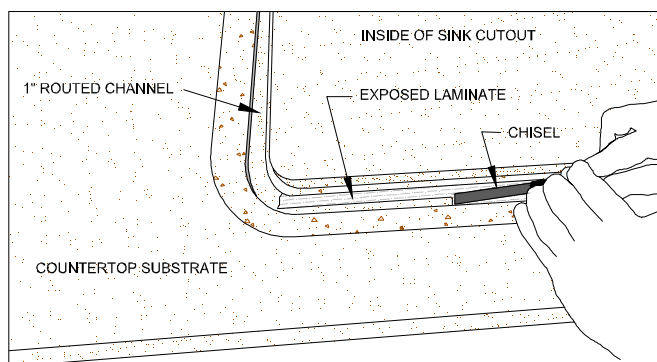

Figure 10C
- ☐ Keep chisel flat, beveled side up, so as not to damage laminate. (FIG. 10C)